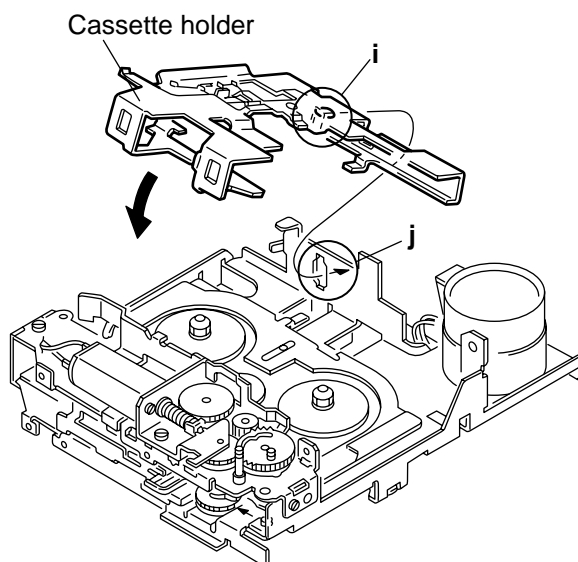

Fig.13
3. Attach the cassette holder as shown in Fig.13. In this case, first pass the tab of the section **i** through the mechanism **j**, then attach the cassette holder in the direction shown by the arrow.